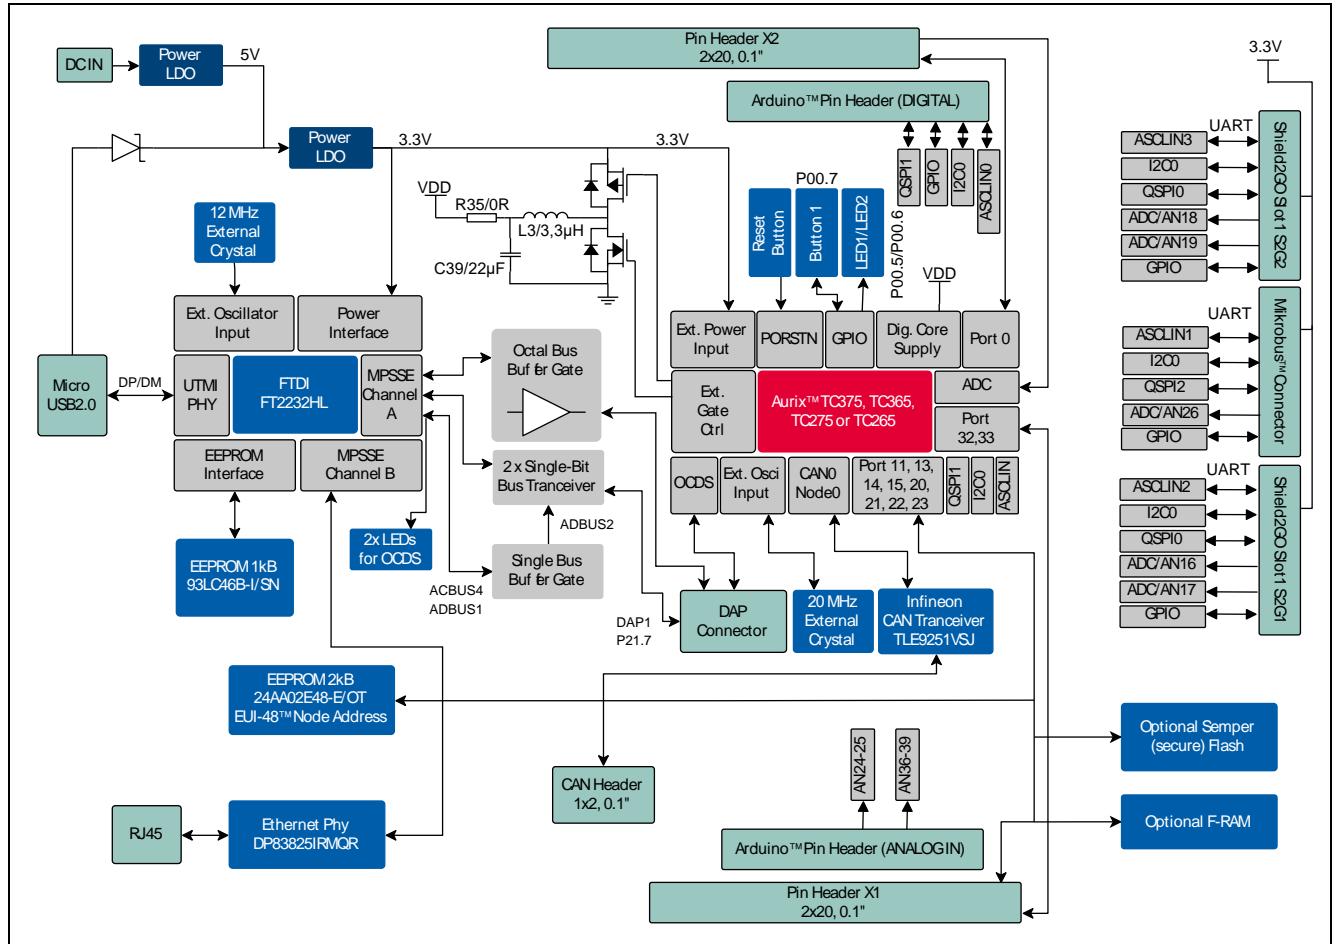

Figure 1 Block Diagram of the AURIX™ lite Kit V2
- The block diagram in Figure 1 shows the main components of the AURIX™ lite Kit V2 and their interconnections.